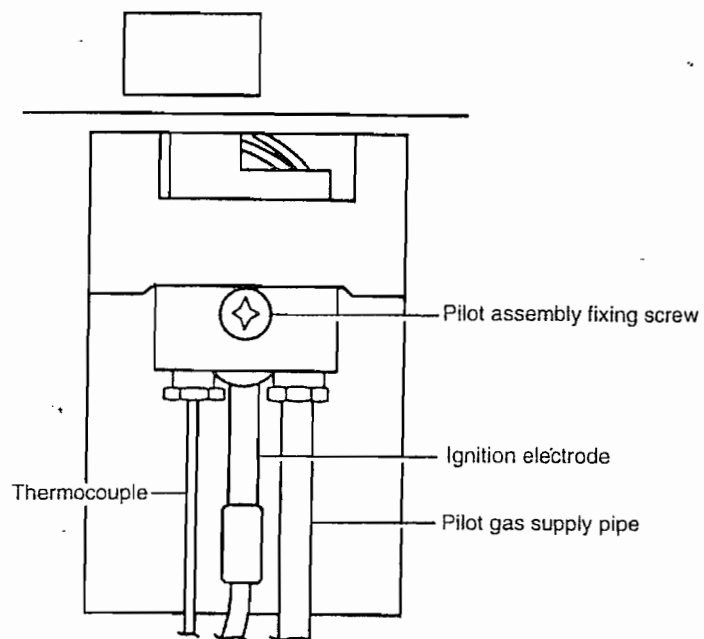

Fig. 34
- f) Remove the single pilot assembly fixing screw (fig. 34). Pull pilot assembly downwards.